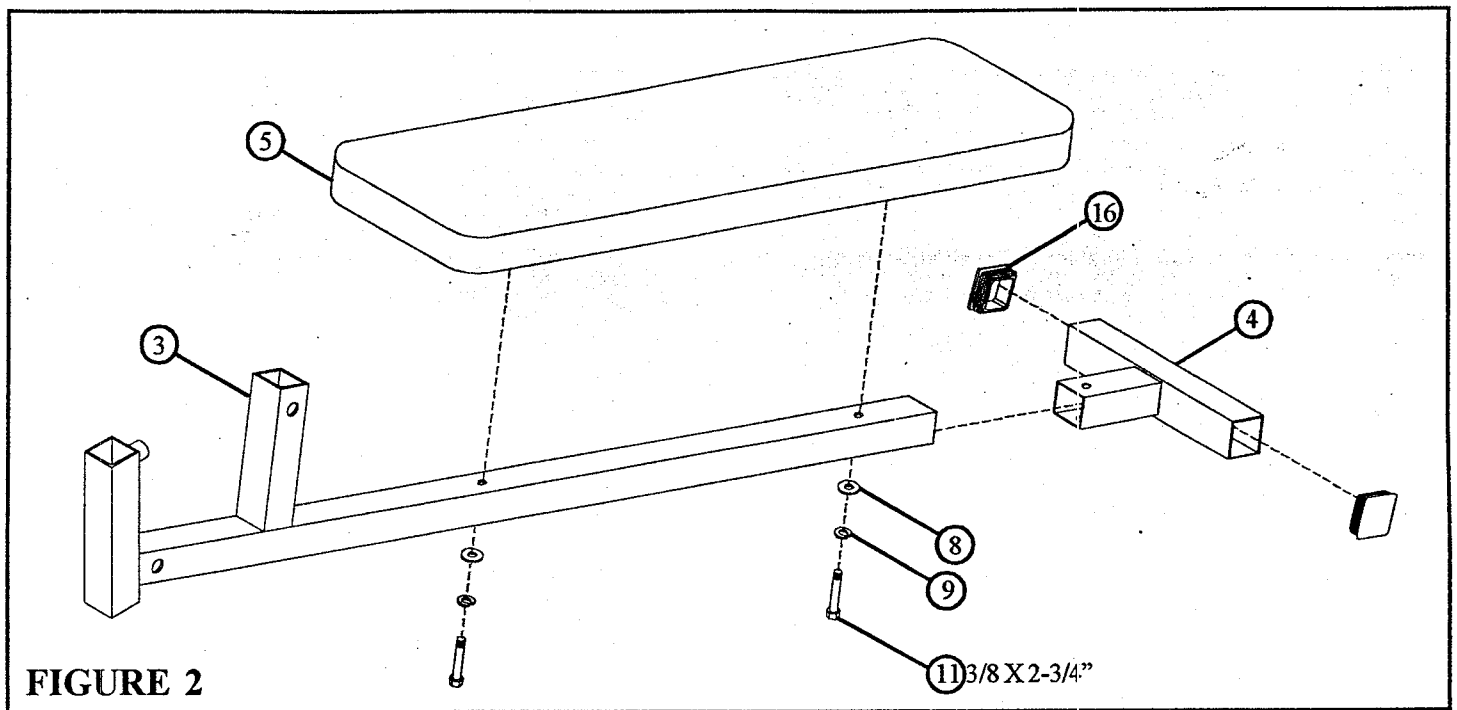

FIGURE 2
- Insert two 2" SQ. END CAPS (16) into the ends of the BASE (4) as shown in FIGURE 2.
- **SECURELY** assemble the PAD (5) to the MAIN PAD SUPPORT (3) and BASE (4) using two 3/8" X 2-3/4" BOLTS (11), two 3/8" LOCK WASHERS (9), two 3/8" WASHERS (8), and two 3/8" LOCK NUTS (10). See FIGURE 2.